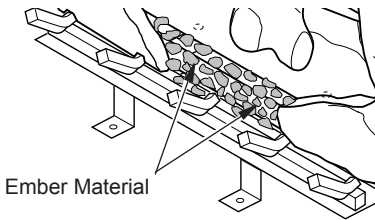

Figure 46 - Placing Ember Material on Burner
8. Pull ember material apart into pieces no larger than a dime. Place these pieces loosely and sparingly directly onto exposed section of front burner and along space between burner and grate prongs (see Figure 46). This will create glowing ember appearance as flame touches ember material. Do not block air slots by using too much ember material in one area. It is not necessary to use all of ember material provided.